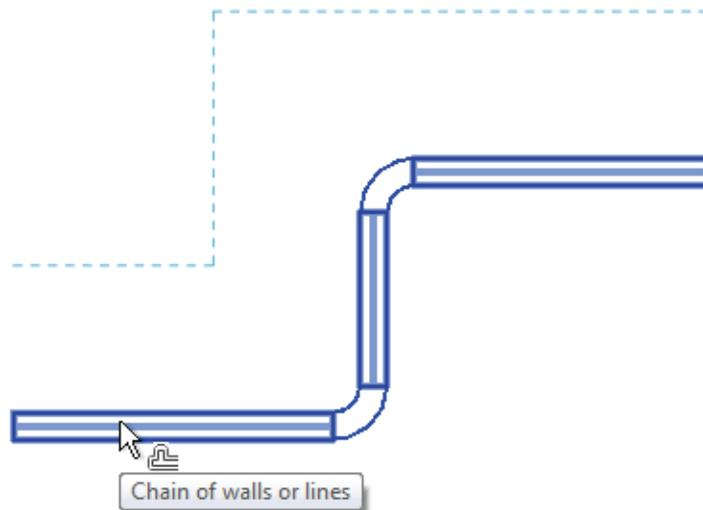

Figure 2–48
- With the **Numerical** option, you can select multiple connected elements for offsetting. Hover your cursor over one and press <Tab> until the required elements are highlighted, as shown in Figure 2–48. Select the elements to offset them. This enables you to offset all of them at once.